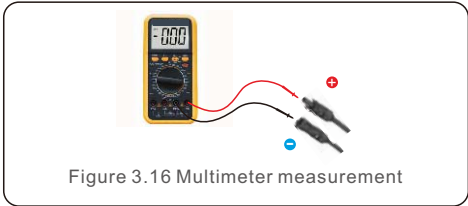
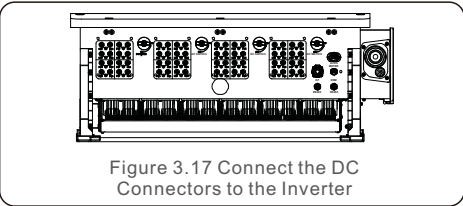

Figure 3.16 Multimeter measurement
Figure 3.17 Connect the DC Connectors to the Inverter
5. Measure PV voltage of DC input with multimeter, verify DC input cable polarity (see figure 3.16), and ensure each string voltage is in range of inverter operation. Connect DC connector with inverter until hearing a slight clicking sound indicating successful connection. (see figure 3.17)